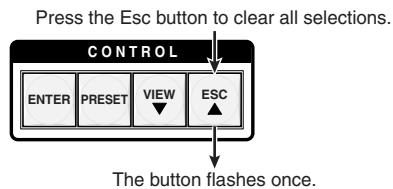

Figure 3-59 — Clear all selections
1. Press and release the Esc button (figure 3-59).